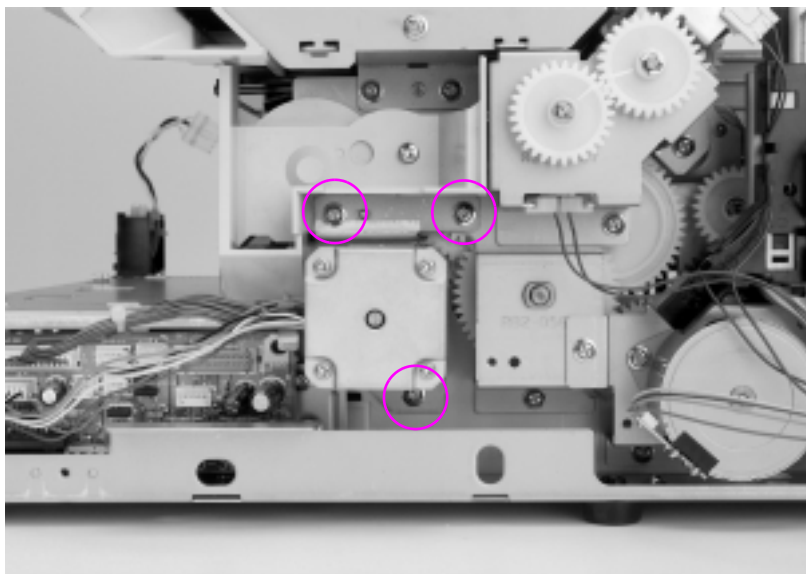

Figure 6-44 Fuser motor removal and replacement (2 of 2)
- 8 Remove the three fuser motor screws shown in Figure 6-44.